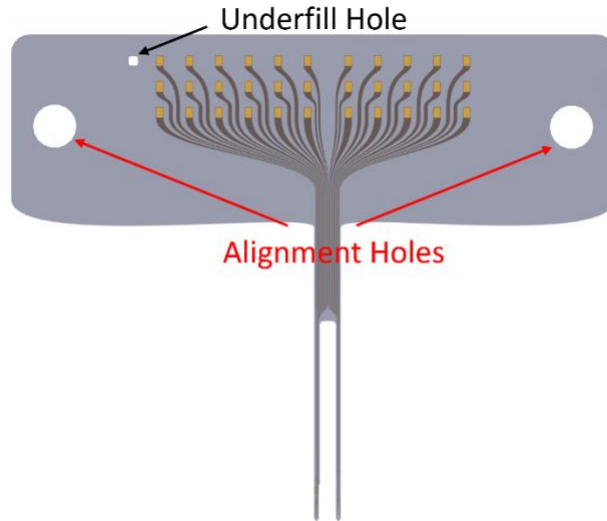
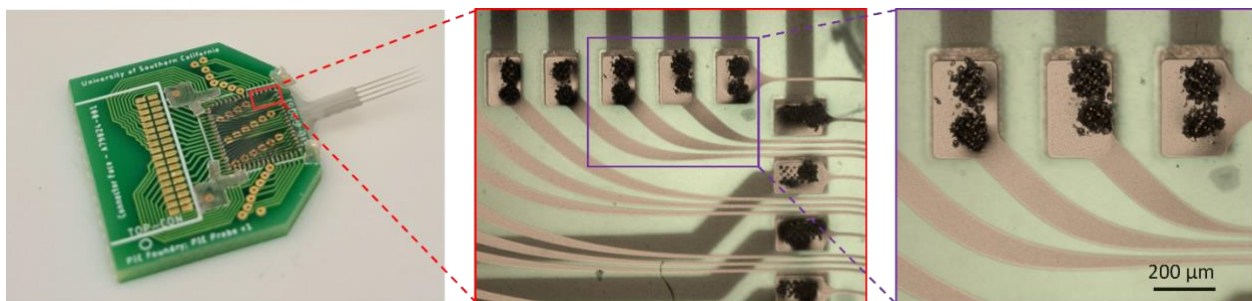

Figure 2. CAD model of PUB bonded probe with alignment holes and underfill ports.
Figure 4. MEA bonded to PCB through PUB using manual alignment.
To facilitate PUB bonding, features for alignment (i.e., holes) and for underfill (i.e., ports) are recommended in the PCB and/or MEA layout. Figure 2 shows a 2D CAD model for a MEA with alignment holes and underfill ports.
1. The alignment holes (Figure 2) are designed to have a diameter of 1.26 mm, which comprises a clearance fit for a dowel pin of 3/64" (1.19 mm) diameter.
3. The underfilling ports (Figure 2) are 250 μm squares, but the size here is only critical insofar as the operator can contact the chip surface with underfill epoxy.
- b. Alignment of pads may be done using dowel pins in alignment holes – designed for both PCB and MEA (Figure 2) – or manual alignment using temporary tape (Figure 4).
6. Ultrasonically bond each pad twice (Bond 1 and Bond 2). Bond pads should be visible through Parylene, as shown in Figure 4.
2. Using a toothpick or fine gauge syringe tip, apply a droplet of epoxy at the underfill port (Figure 2) between the substrate and Parylene MEA.